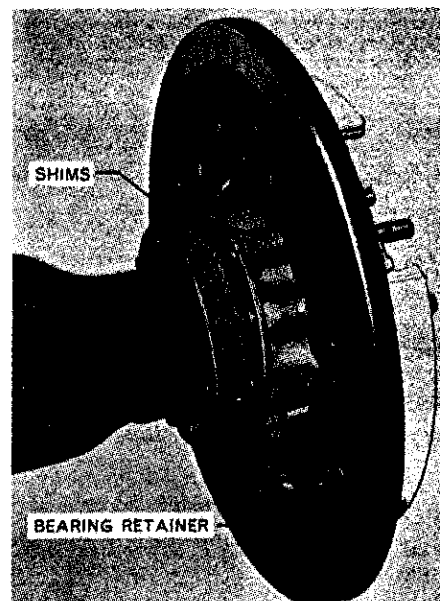

Fig. 319—Axle shaft bearings are adjusted by varying shims located between axle housing and bearing retainer.
292. OVERHAUL DIFFERENTIAL LOCK. The differential lock foot pedal pivots on an extended lower hydraulic link shaft. Pedal has renewable bushing (79—Fig. 317), be sure to align grease hole in bushing with hole in pedal. The spring loaded operating rod is renewable only as a complete assembly. The operating lever and fork shaft pivots in renewable bushings in right rear axle housing. To renew the operating shaft (71), bushings (12 and 70), fork (67) and/or pedal pivot shaft (66), remove the right axle housing as follows: Drain oil from differential and hydraulic lift compartments. Disconnect differential lock operating rod from operating lever and remove foot pedal and hydraulic lower link from pivot shaft. Block up under center housing and unbolt and remove right rear wheel and fender, then remove axle assembly from axle housing. Be careful not to lose or damage shims (see Fig. 319) located between bearing retainer axle housing. Then, unbolt and remove axle housing from center housing. Renew shaft bushings, fork and/or pedal pivot shaft as necessary. Procedure is evident from inspection of unit and reference to Fig. 317. The differential lock sliding coupling, spring and coupling adapter can also be inspected and, if necessary, renewed at this time. Note: If necessary to renew right differential carrier bearing (30—
294. BEARING ADJUSTMENT. The rear axle shafts are carried on one tapered roller bearing at the outer end of each shaft. The bearings are retained in their cups by contact of the inner ends of the two axle shafts in the differential assembly. The recommended axle shaft end play of 0.004-0.012 is obtained by varying the shims installed between the axle housing and axle bearing retainer as shown in Fig. 319.